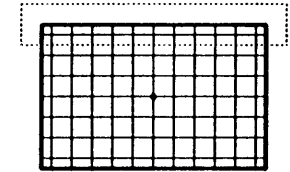

FIG. 18
30. RJ114 (S PIN) controls bowing of the blue line along the top of the screen. Adjust RJ114 so that the blue line along the top of the screen is at its most parallel point to the green and not necessarily converged on top of it. If the tilt on the left or right hand side are not correct, go back and retouch the pots controlling these areas. See Fig 18.